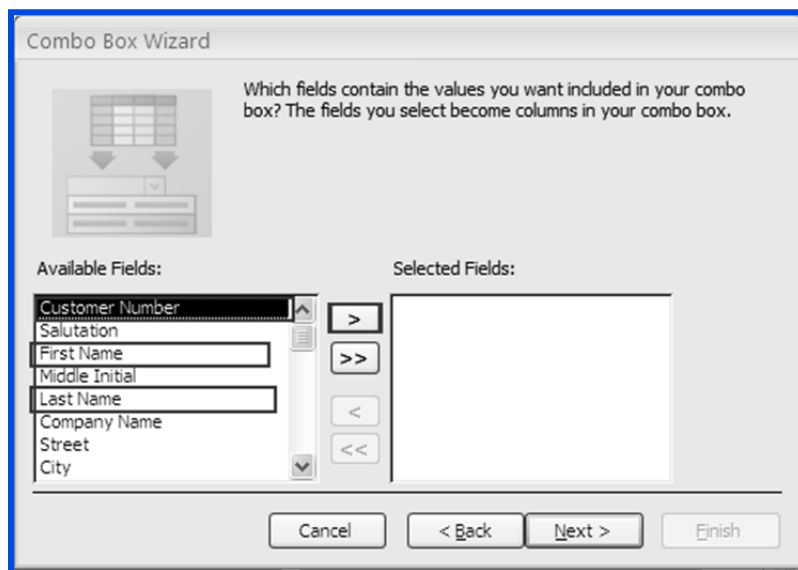

Fig. 2.2.16. Add field to Combo Box
6. In the *Select Field* window, select field *Customer Number* from *Available field* and click on  sign to put it into selected fields. Similarly, add *First Name* and *Last Name* to selected field. The window appears, as shown in Fig. 2.2.16. Alternatively, the user can double-click the fields to add them to selected field.